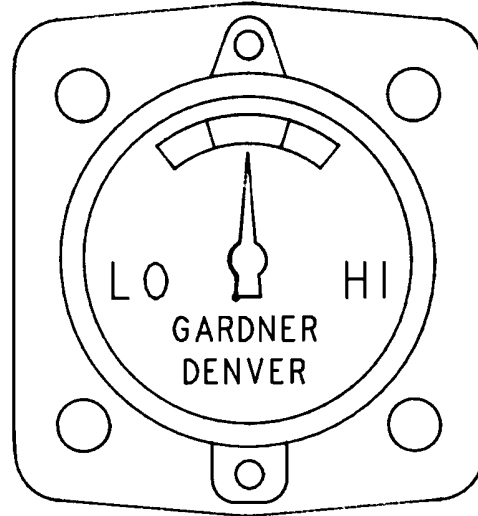

FIGURE 5-4 – OIL LEVEL GAUGE
**DO NOT OVERFILL.** The quantity required to raise the oil level from the red range center of the green range is shown in FIGURE 5-4, page 33. Repeated addition of oil between oil changes may indicate excessive oil carry-over and should be investigated.